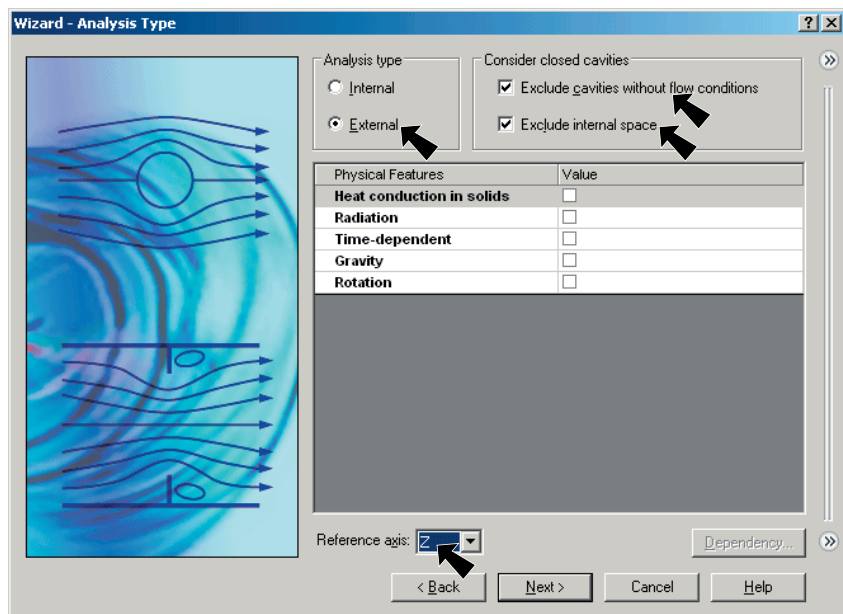

Fig. 5
Under Analysis type, select **External**, Fig. 5.
Step 10. Check **Exclude cavities without flow conditions** and **Exclude internal space**, Fig. 5.
Step 11. Set **Reference axis** to **Z**, Fig. 5.